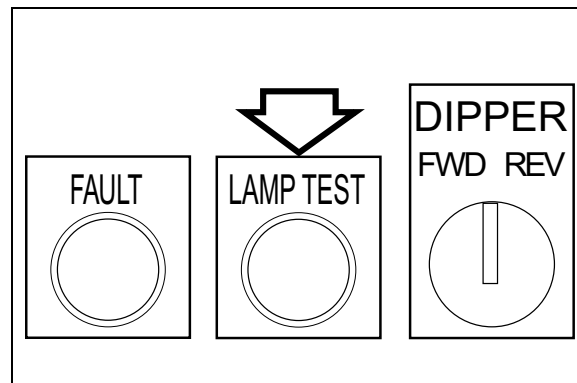

Figure 4-4: Lamp Test Push-button
4. Press the LAMP TEST push-button (Figure 4-4). All push-buttons will light to verify that all lamps are functioning. If a push-button fails to light, the bulb might need to be replaced, the wiring to the light checked, or the LAMP TEST button needs to be repaired.